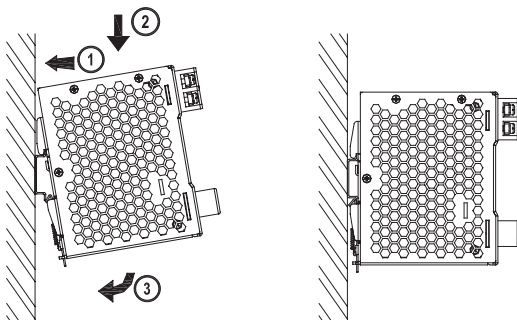

Figure 2
3. Mounting (Fig. 2)
Each device is delivered ready to install. Snap on the DIN rail as shown in Fig. 2: